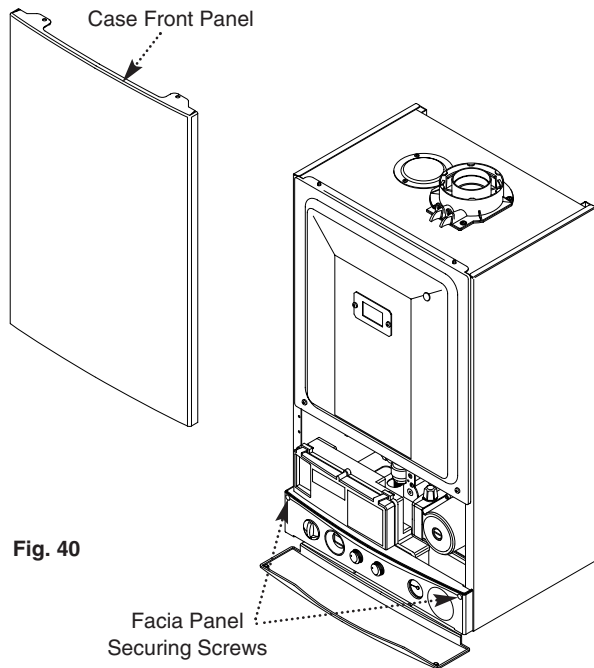

Fig. 40
5. Slacken the screws securing the fascia panel. Lift the outercase panel so that its securing tabs are clear of the fascia. Remove the panel, allowing the fascia to hinge down (Fig. 40).